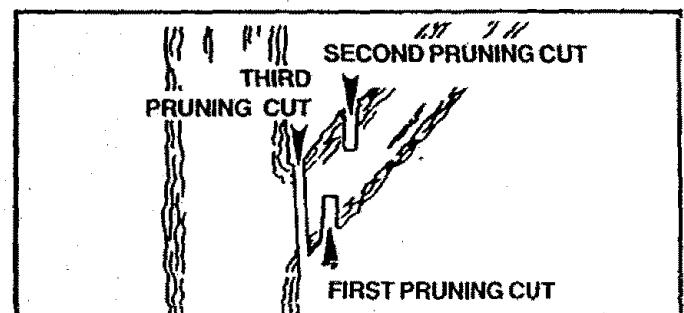

Figure 38
- b. Refer to Figure 38 for the pruning technique.